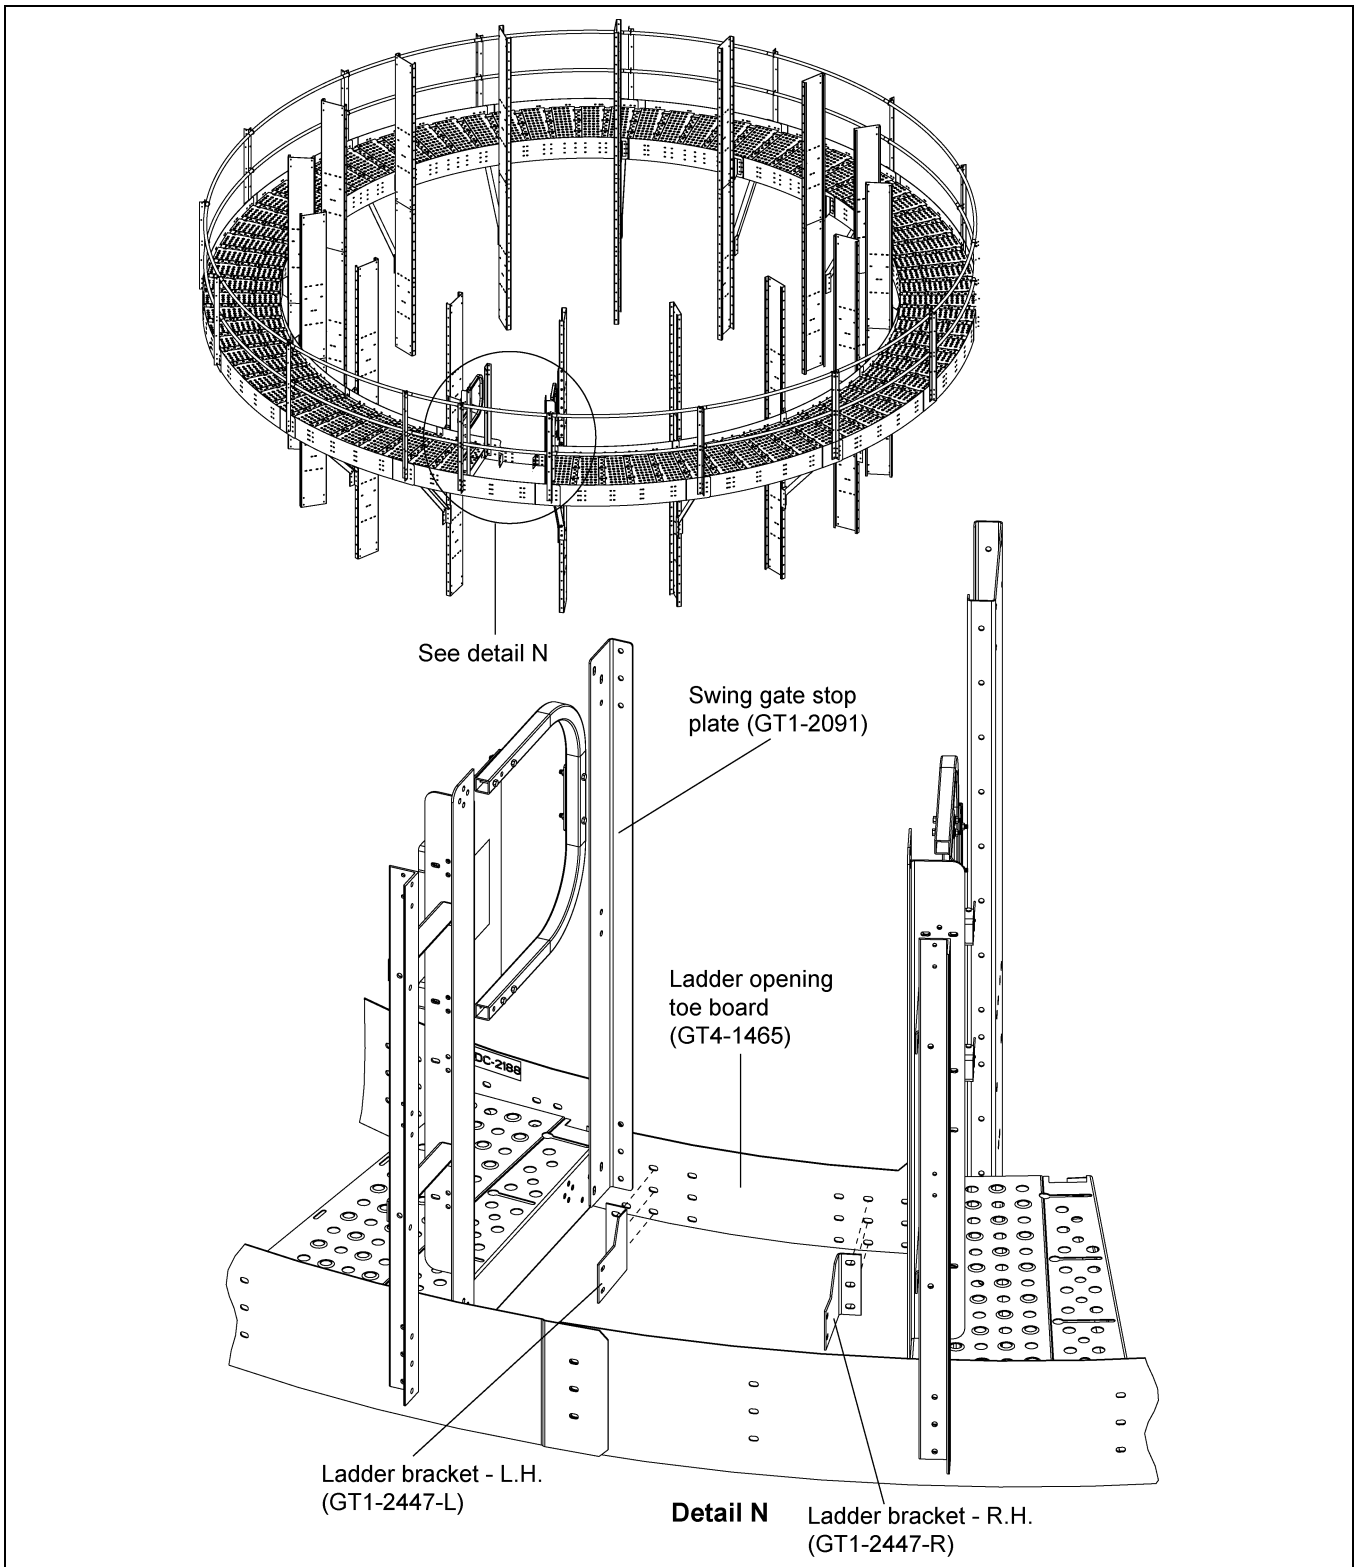

Figure 4Z
1. Install the ladder brackets (GT1-2447-L and GT1-2447-R) to the ladder opening toe board (GT4-1465) using 3/8"-16 x 1" JS grade 8 or grade 8.2 bolts (S-7485) and 3/8"-16 ZN grade 5 nuts (S-968). (See Figure 4Z.)